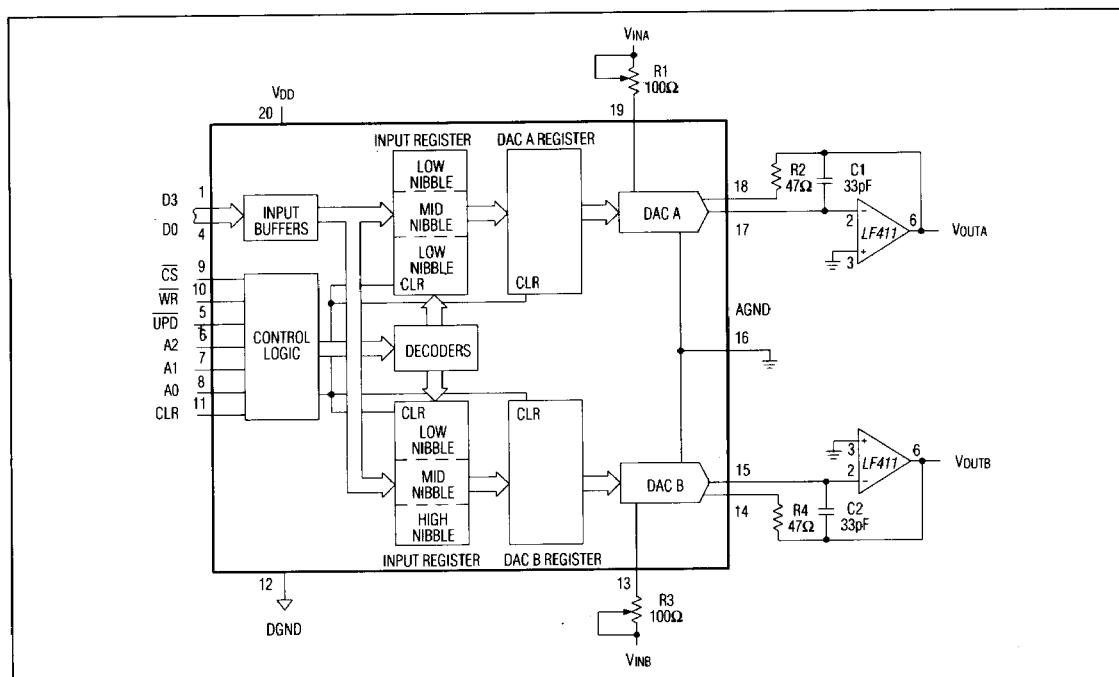

Figure 3. Dual DAC Unipolar Binary Operation (Two-Quadrant Multiplication)
The current output can be converted to a voltage by adding an external output amplifier (Figures 3, 4). The VREF input accepts a wide range of signals, including fixed and time-varying voltage or current inputs. Consider the temperature coefficient of R1 (R3) and R2 (R4) to minimize gain variation with temperature. The internal feedback resistor is compensated with an NMOS switch that matches the NMOS switches used in the R-2R array. This yields excellent supply rejection and gain temperature coefficients.
Figure 3 shows the most common configuration for the MX7549 that is used for unipolar binary operation or two-quadrant multiplication when V_{IN} is an AC signal. For full-scale adjustment, load 1's into the DAC A register, and trim R1 until $V_{OUT} = -V_{IN}(4095/4096)$. Alternatively, R1-R4 can be omitted, and the reference voltage can be adjusted to compensate for full-scale error. DAC B full-scale errors are trimmed in the same manner.
The MX7549 has a maximum gain temperature coefficient (TC) of $\pm 5 \text{ ppm}/^\circ\text{C}$. If the trim resistors in Figures 3 or 4 are used to adjust full-scale gain error, consider their TC as part of total gain error over the temperature range. Select resistors R5, R6, and R7 (R8, R10, R9) so all ratios match to 0.01% and have low-temperature coefficients (e.g. RN-type metal film).